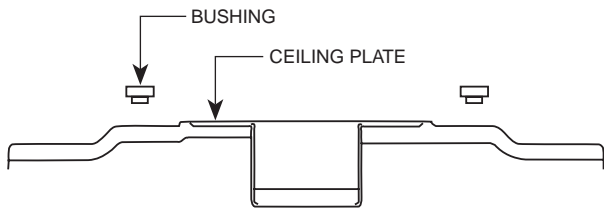

FIGURE 4
A. Install the (4) rubber bushings into the top of the ceiling plate by inserting small side of the bushing into the four holes in the ceiling plate. See Figures 4 and 4A.